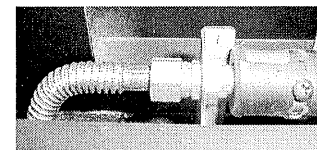

Figure 6
6. Visually check the burner flames. An adjustable air shutter is located at the base of the burner tube (See figure 6 above) If the burner flames are short & blue, close the venturi slightly. If the burner flames are tall and yellow orange, the venturi must be opened slightly.